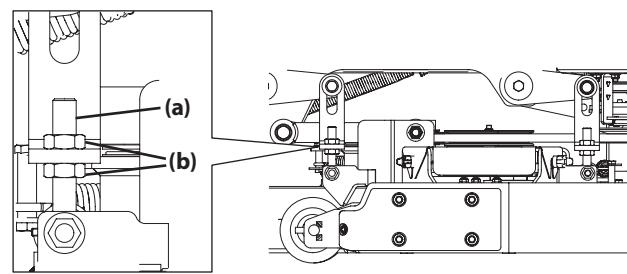

Figure 29
3. Adjust the eyebolt (a) at the left front of the deck so that the blade-to-ground height at the right outside blade tip matches that of the left outside blade tip. This is done by loosening the jam nuts (b) on the eyebolt (a) and tightening the upper jam nut (b) to raise the deck and loosening the jam nut (b) to lower the deck. The right outer blade tip height is fixed by the right, front eyebolt (a) so you must adjust the left outer tip to match it. See Figure 29.
7. Loosen the jam nuts (b) at the rear left and right of the deck eyebolts (a). Refer to Figure 29.